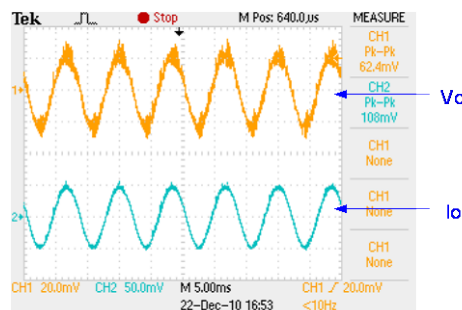

Fig 4-9 LED Driver ripple
- 1.2 Figure 4-9 show LED driver constant current output I_o has a current ripple, the Voltage across of LED also got a $I_o \cdot R_d$ voltage ripple (Normally is a high frequency Triangle waveform).